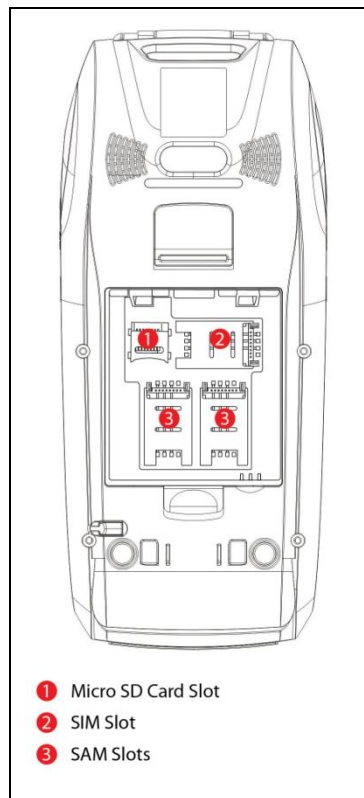

Figure 3: ACR890 – Location of Card Slots
2. The location of the Micro SD Card, SIM and SAM slots can be seen in **Figure 3**.